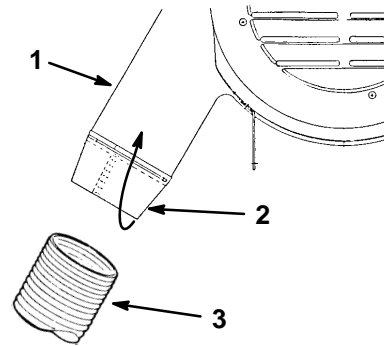

Figure 20
5. Fold the seal into the top assembly inlet and install the discharge tube. The seal should remain folded inside the top assembly inlet to prevent blowout (Fig. 20).